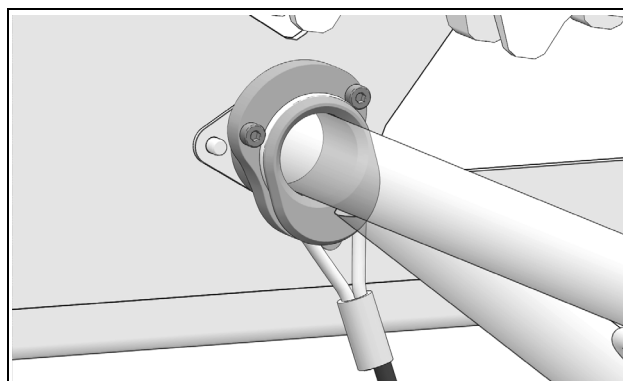

Figure 22
- **Long position:** hard-packed snow conditions. Figure 22.